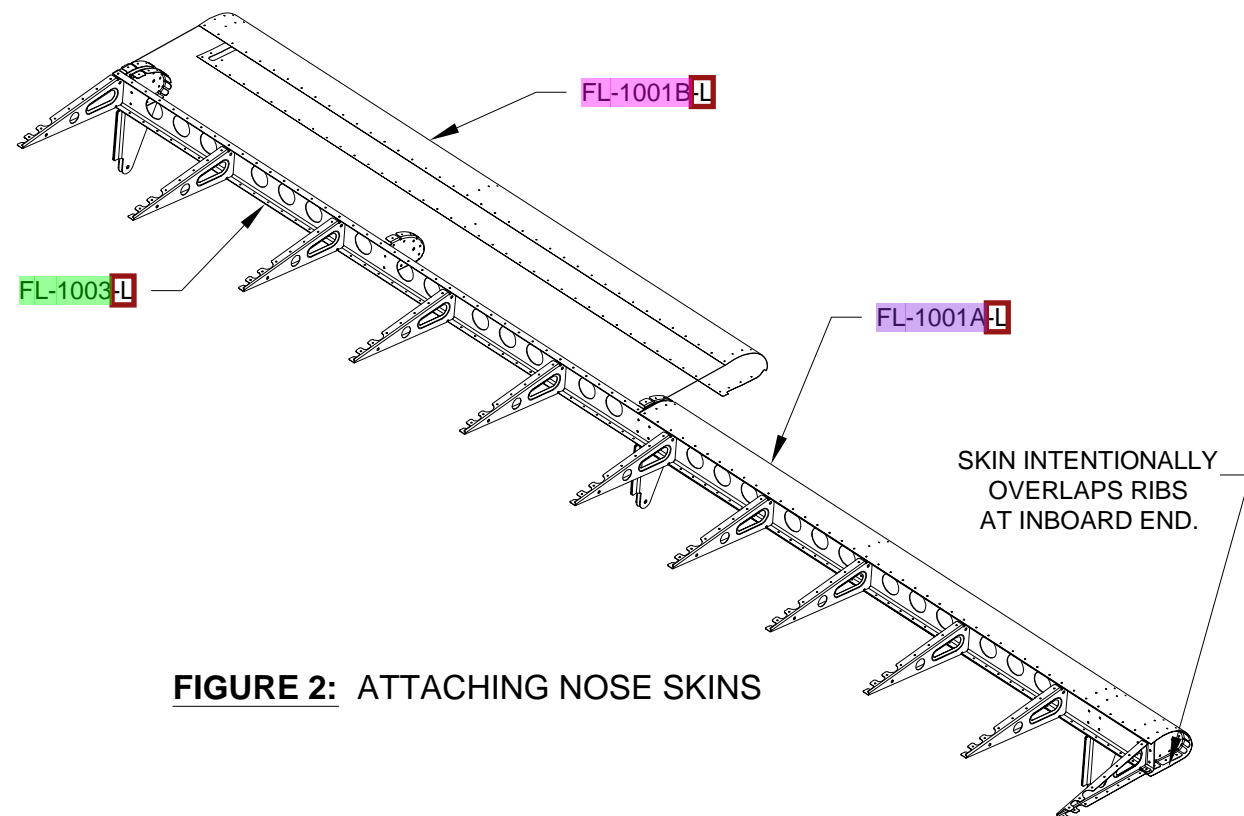

FIGURE 2: ATTACHING NOSE SKINS
Step 2: Put a slight bend in the trailing edges of the **FL-1001A-L** Inboard Nose Skin and **FL-1001B-L** Outboard Nose Skin so that they will lay down flat and tight on the **FL-1001C** Top Skin and **FL-1002** Bottom Skin after riveting. Slide the inboard nose skin and the outboard nose skin over the **FL-1007** Hinge Brackets and cleco the nose skins in place as shown in Figure 2. This makes the **FL-1003-L** Spar somewhat rigid. Use only a few clecos on the top; they will be removed in the next step.